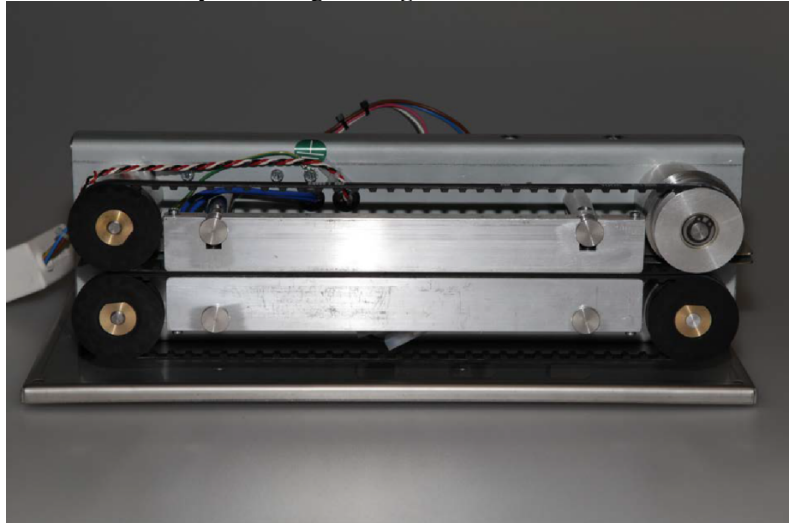

Figure 32
33. Heat sealer is ready for use again. **Fig. 32**